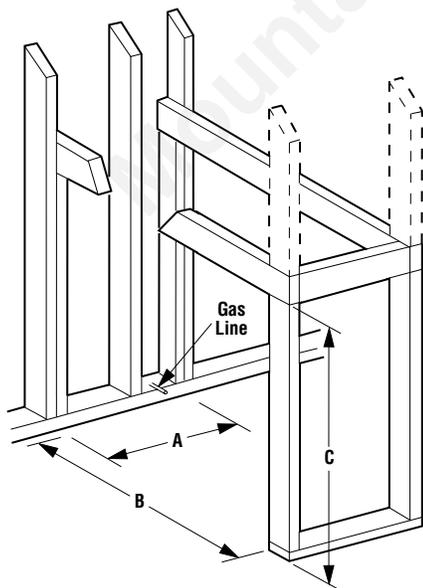

Figure 4
Step 1. Frame the VFST appliance as illustrated in Figures 4 and 5.